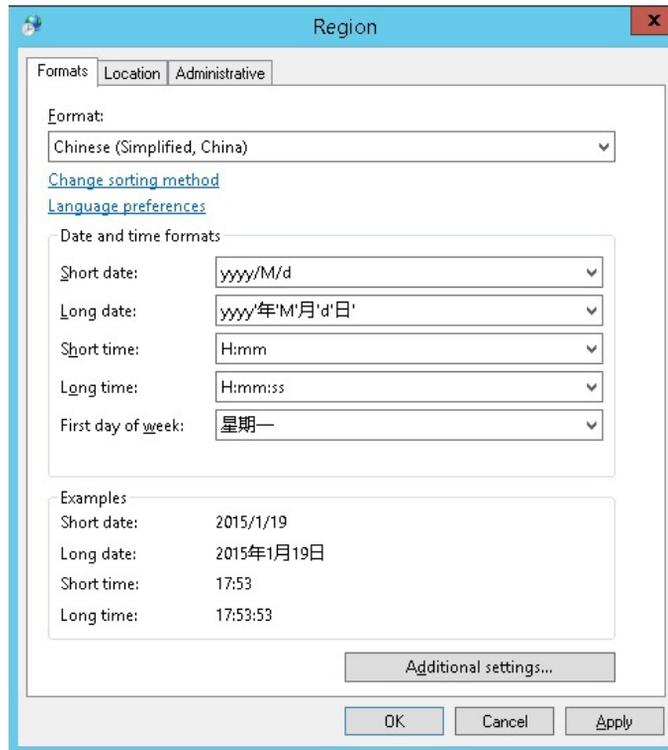

Figure 6. User Locale
5. Click **Apply** and then **Ok**. See Figure 6.